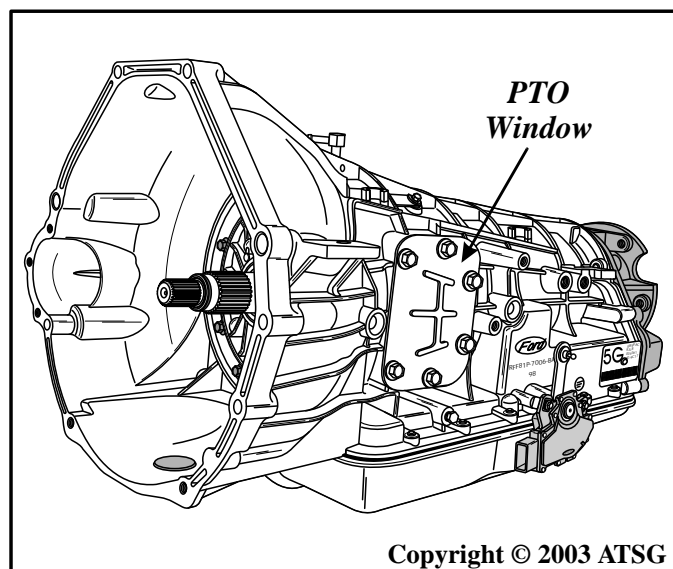

Figure 5
- (1) Obviously the case must be PTO capable with the cast-in window in the transmission where the PTO unit mounts to the transmission, as shown in Figure 5.
- (2) Designed for use during Mobile (Some Models) or Stationary conditions.
- (3) PTO is available as an option **only** on 8500 GVW or above, Super Duty F-Series trucks with 6.8L Gasoline and 7.3L Diesel engines. Ford 4R100 transmissions on other models **are not** PTO capable.
- (4) Battery voltage **must** be supplied to the Powertrain Control Module (PCM) input pin 4 on gasoline models, or pin 66 on diesel models, **when the PTO is engaged**. The processor uses this information to raise EPC pressure to approximately 55 PSI so that you do not burn the coast clutch. **This voltage must be provided by the PTO installer.**
- (5) Shift Solenoid 2 and the Coast Clutch Solenoid must be energized when the PTO is turned ON.